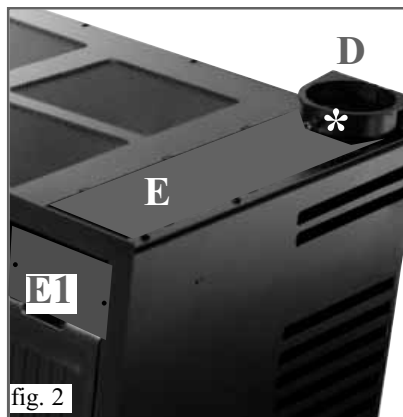

fig. 2
- Remove the support screw (*) and fit the smoke channel onto the smoke outlet (F), blocking it in place with the screw (°).
- This is implemented through the opening (E) at the top of the insert, after having removed the plate (E1) fastened with 2 screws (refer to Fig. 2).